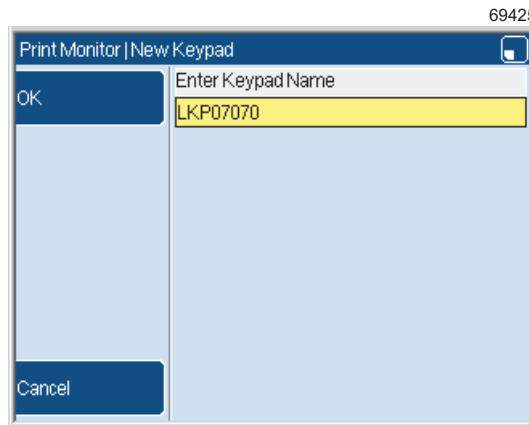

Figure 6. New Keypad page: keypad name
- 2 Press the **New** key and enter the keypad name “LKP07070”, as shown in the example in Figure 6.